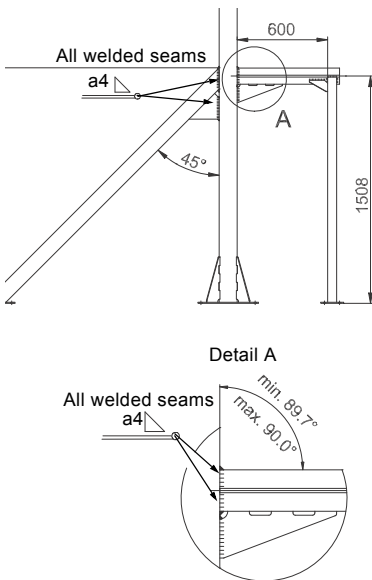
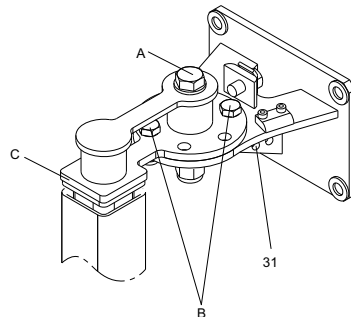

Fig. 19 Welding of column profile and support legs
Fig. 21 Top fixation
5. Shorten the column profile (pos. 5 in fig. 19) to the correct length to match the position of insulator (pos. C) at the top fixation bracket. A gap of 5 to 10 mm between collar of insulator and column profile is optimal. See fig. 21.